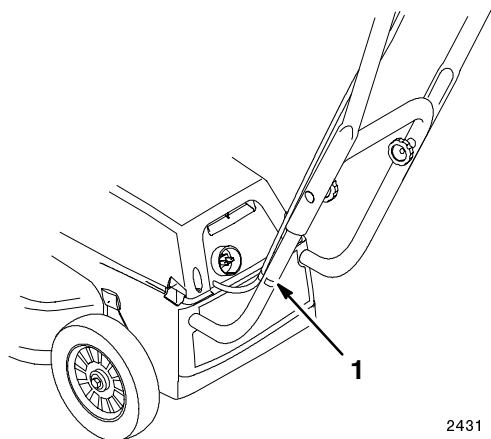

Figure 5
8. If the handles are in highest height position, use a clip to attach the cable to the left side of the lower handle tube (Fig. 5).